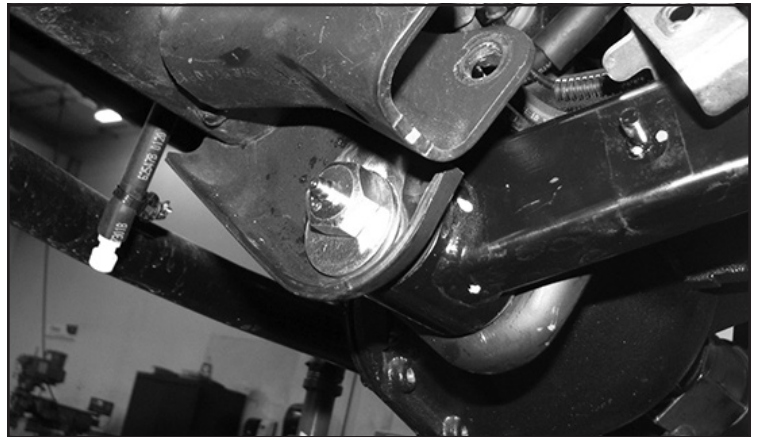

FIGURE 5 - STEP 4
4. Install the zerk into the new cam bolt, then install the bolt like shown in **FIGURE 5.** Preset the cam in the middle location. **NOTE: This is a starting point, final adjustments will need to be made during an alignment. Leave loose at this time.**